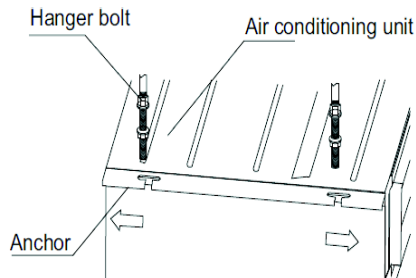

Fig. 6 – Install the Hanger Bolts
1. **INSTALLING HANGER BOLTS** — Install the hanger bolts at the locations (see Fig. 6, top view). Use $\varnothing 10$ / $\varnothing 0.394$ in all-threaded rod.